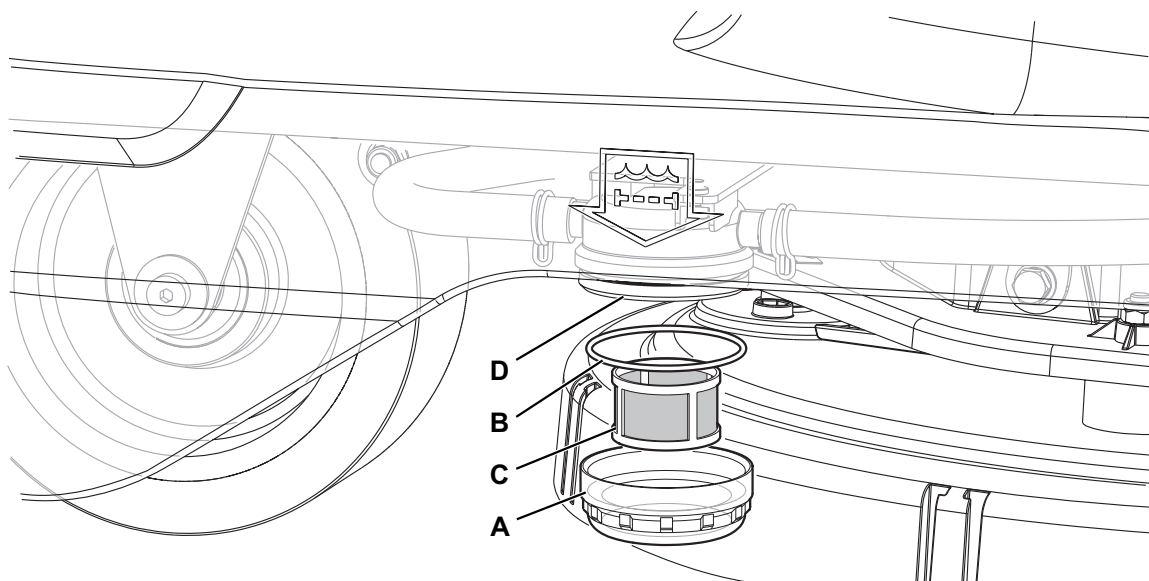

Figure 10
2. Ensure that the machine is off and the operator key (41) is turned to "O".
3. Close the solution tank valve (9). The valve is closed when it is in position (9-B) and it is open when it is in position (9-A).
4. Remove the transparent cover (A, Fig. 10), retrieve the gasket (B), then remove the filter strainer (C). Wash and rinse them with clean water, then refit them carefully onto the filter support (D).